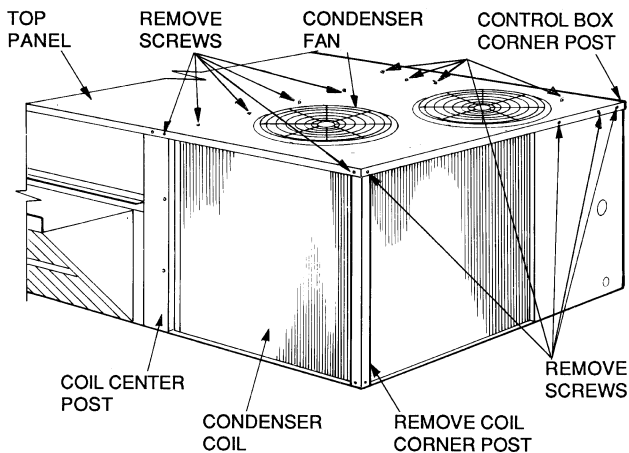
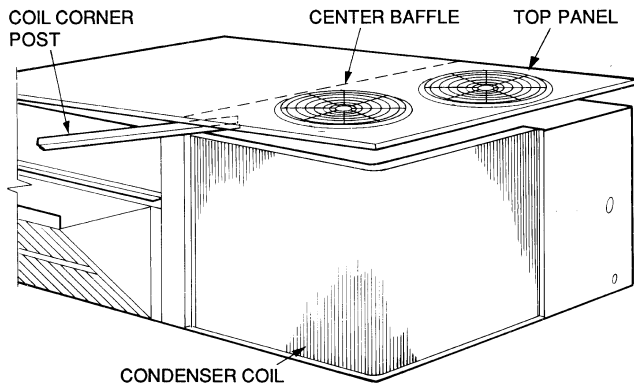

Fig. 44 — Cleaning Condenser Coil
Fig. 45 — Propping Up Top Panel
3. Remove condenser coil corner post. See Fig. 44. To hold top panel open, place coil corner post between top panel and center post. See Fig. 45.